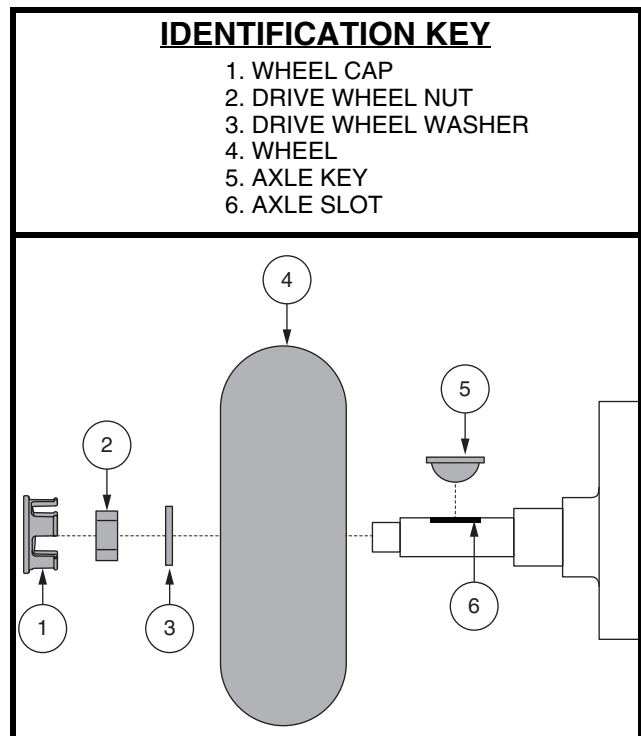

Figure 24. Wheel Removal
3. Remove the wheel cap, drive wheel nut and washer from the axle. See figure 24.
4. Remove the drive wheel nut and washer from the axle. **See figure 24.**
9. Slide the wheel back onto the axle. Make sure that the axle key is in the axle slot. **See figure 24.**